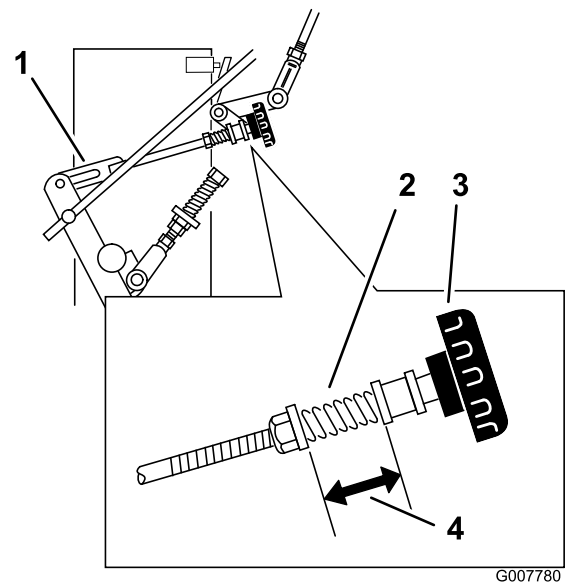

Figure 36
3. Adjust the right side linkage by turning the quick track knob counterclockwise until the tyre begins to rotate forward (Figure 36).
4. Turn the knob clockwise 1/4 of a turn at a time. Then move the speed control forward and back to neutral. Repeat this until right wheel stops rotating forward (Figure 36).
6. The spring that keeps tension on the knob should normally not need adjustment. However if an adjustment is needed, adjust the length of spring to 26 mm (1 inch) between the washers (Figure 36).
7. Adjust spring length by turning nut at front of spring (Figure 36).